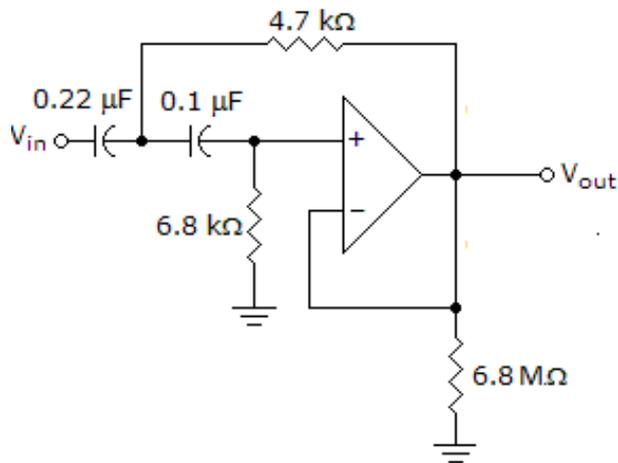

Fig. Q 2C
- 2A.** Mention any four main functions of signal conditioning circuit. Design an active signal conditioning circuit using OPAMP to be interfaced with AD590 IC temperature transducer so as to produce 0V at $0^\circ C$ and 10V at $100^\circ C$. The rate of conversion of AD590 is $1\mu A/^\circ K$. (03)
- 2B.** With a neat diagram, explain the principle of magnetic isolation using active devices. Highlight the role played by phase sensitive modulators as well as phase sensitive demodulators in this signal isolation technique. (03)
- 2C.** An active filter is employed as shown in **Fig. Q 2C**. With detailed steps, derive its mathematical model. From the analysis, comment on the type of the filter architecture (band pass/band reject/low pass/high pass) employed. Also determine the cutoff frequency and comment whether the filter architecture is suitable for employment in a signal conditioning unit that processes transduced signals of a structure undergoing seismic excitations. (Excitation frequency range of 0.01-40 Hz). (04)